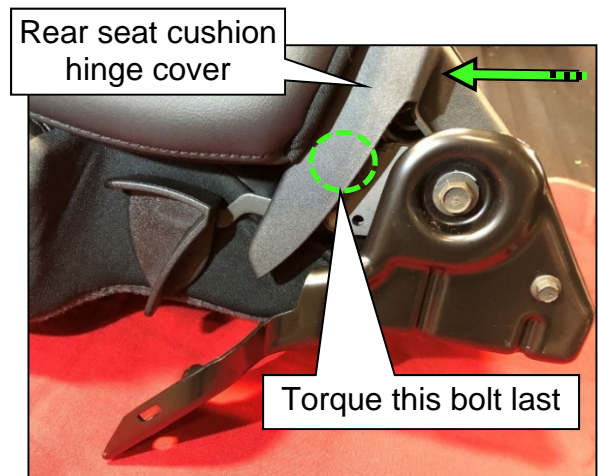

Figure 16
17. Slide the rear seat cushion hinge cover forward to access the rear outboard seat cushion hinge assembly bolt and torque it to specification (Figure 16).